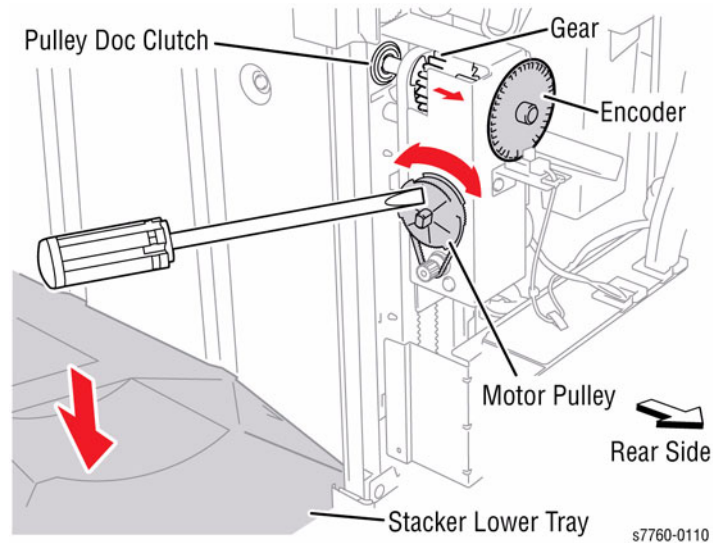

Figure 1 Disengaging Elevator Pulley
2. Disengaging the Elevator Pulley (Figure 1).